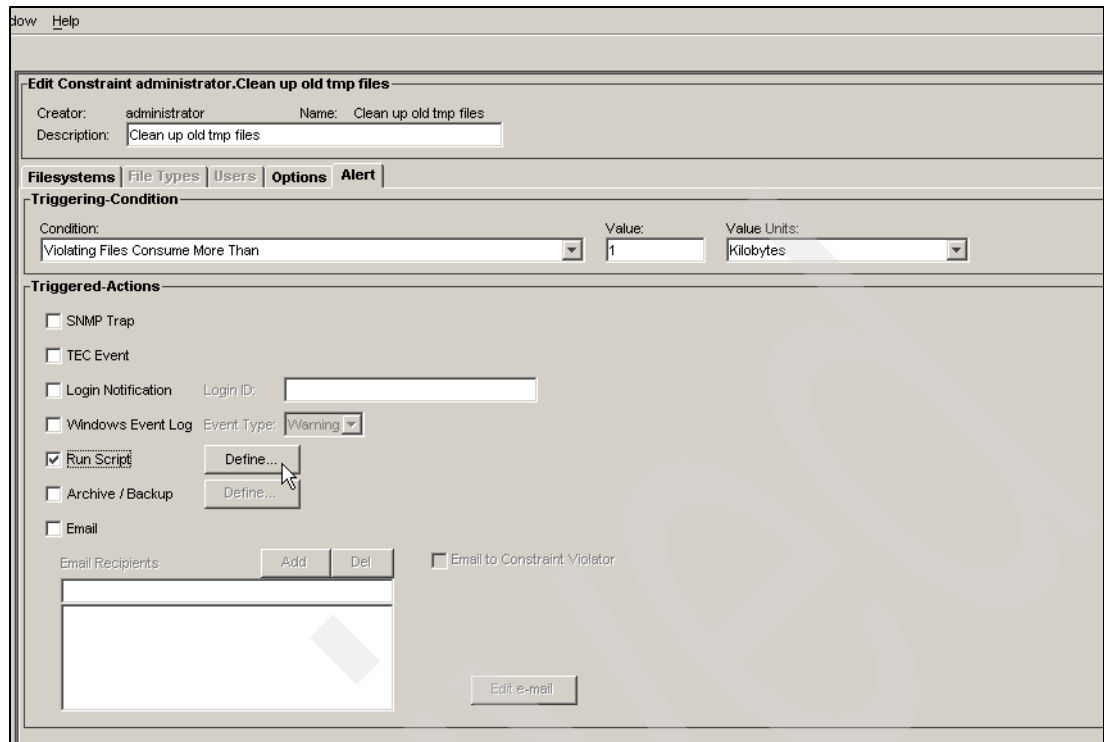

Figure 2-31 Set alert preferences
5. Next, move to the Alert panel by selecting the **Alert** tab as in Figure 2-31 on page 37. Set the **Condition:** to **Violation Files Consume More Than 1 Kilobytes**. Then, check **Run Script** and click **Define**. If you want TPC to e-mail an administrator when the constraint is triggered, check **Email** and enter a list of the addresses to which to send alerts.